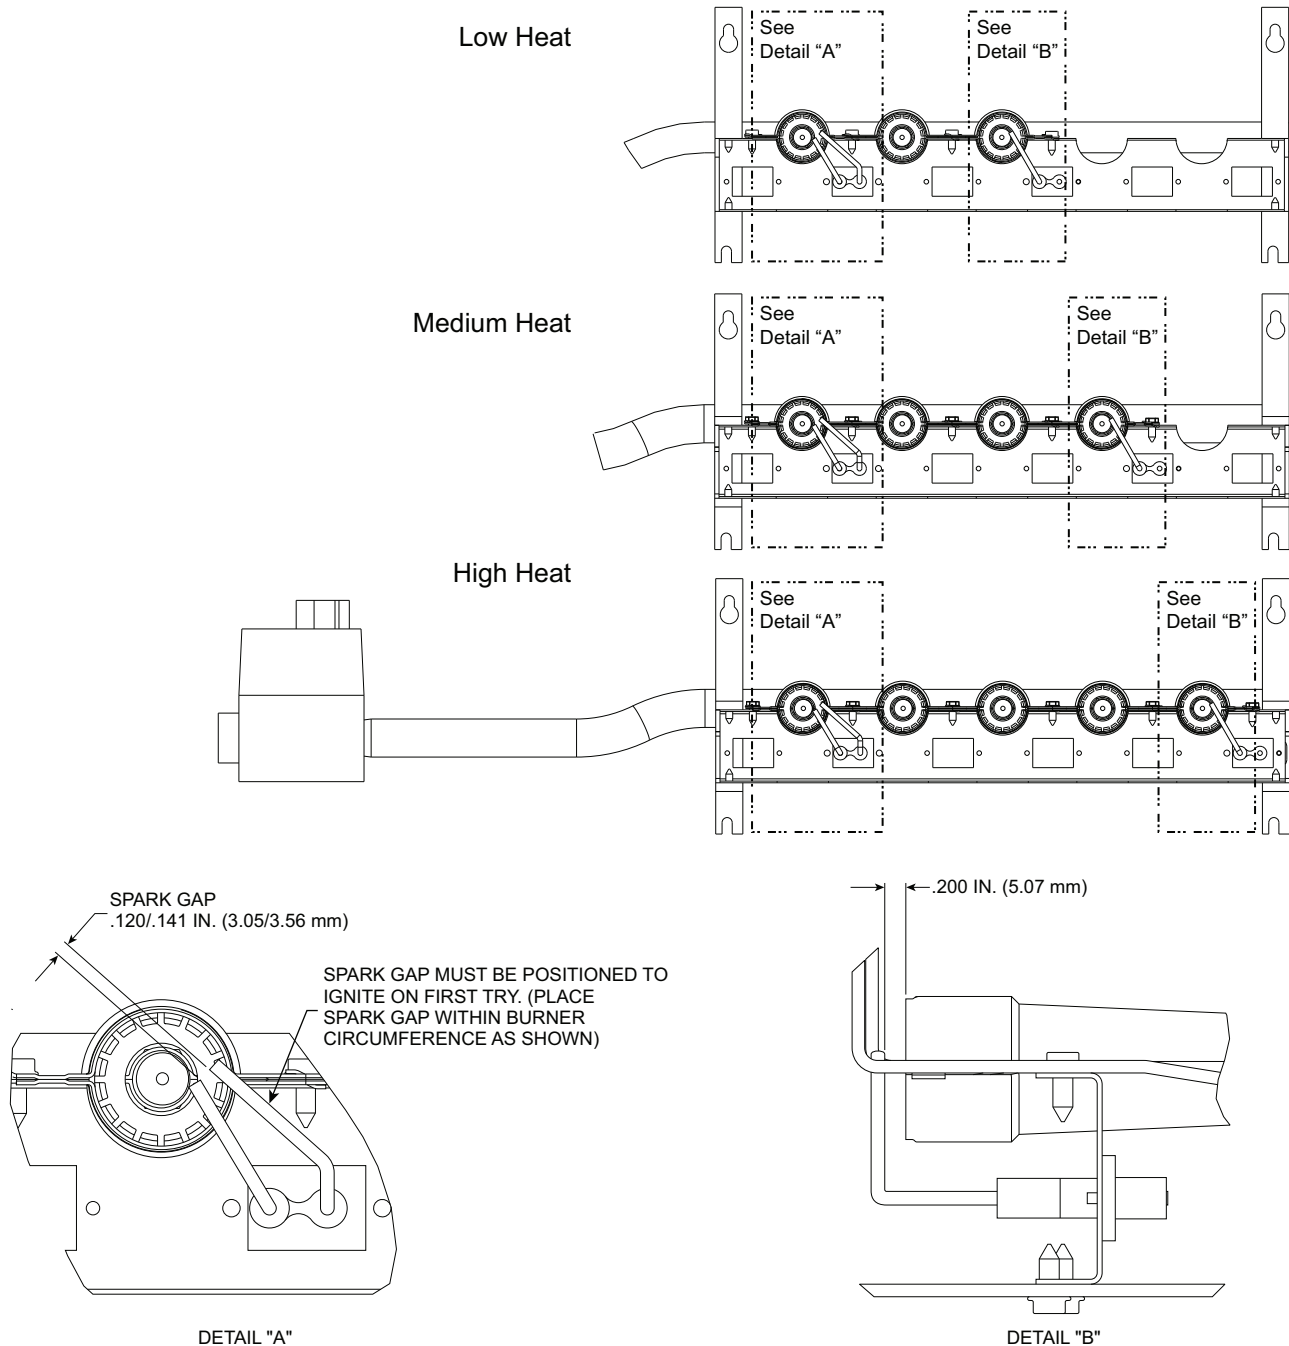

Fig. 55 — Spark Adjustment
4. Adjust spark gap. (See Fig. 55.)